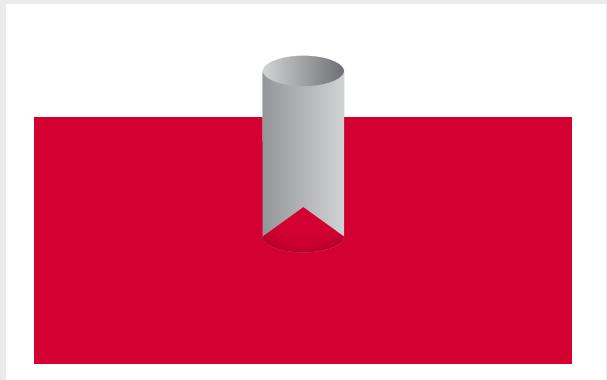

Figure 3:
4. Cut a "X" hole that is slightly smaller than the pipe diameter in the VaporFlex® Standard sheet at the pipe penetration location. (Fig. 3)